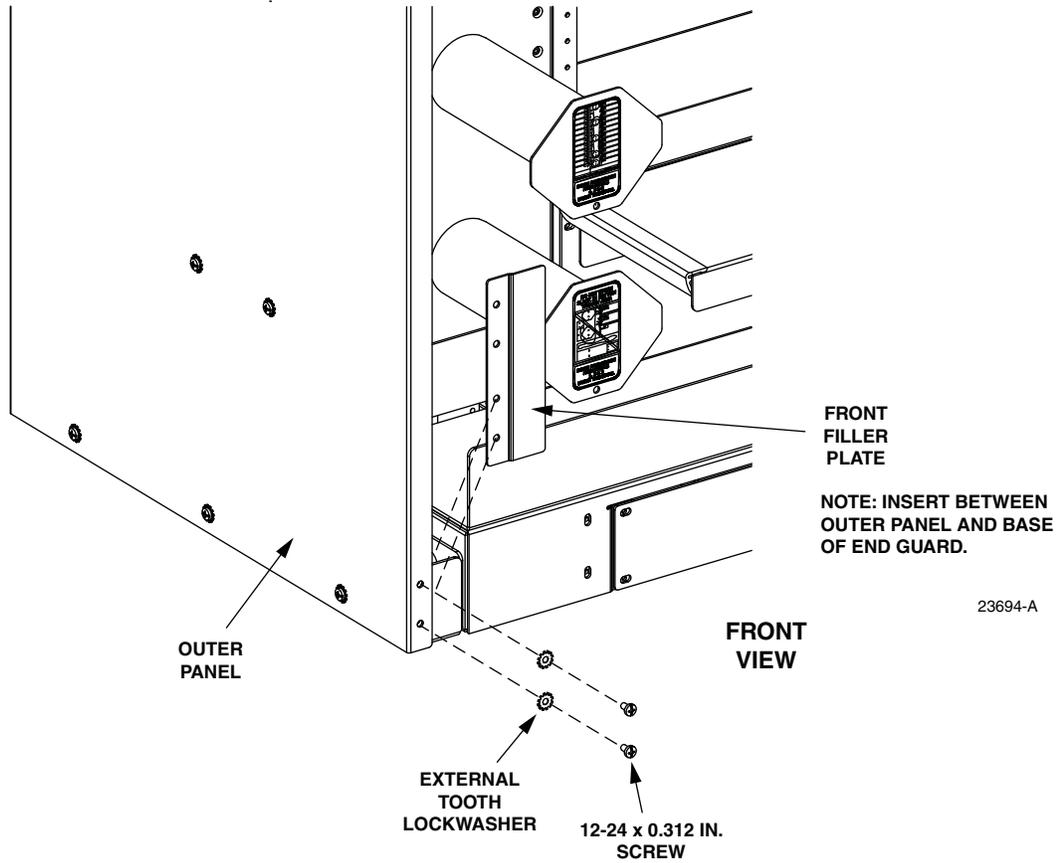

Figure 10. Installing the Front Filler Plate to the End Guard
7. Install the front filler plate to the bottom front of the end guard as shown in Figure 10 using two 12-24 x 0.312 inch screws and two external tooth lockwashers.